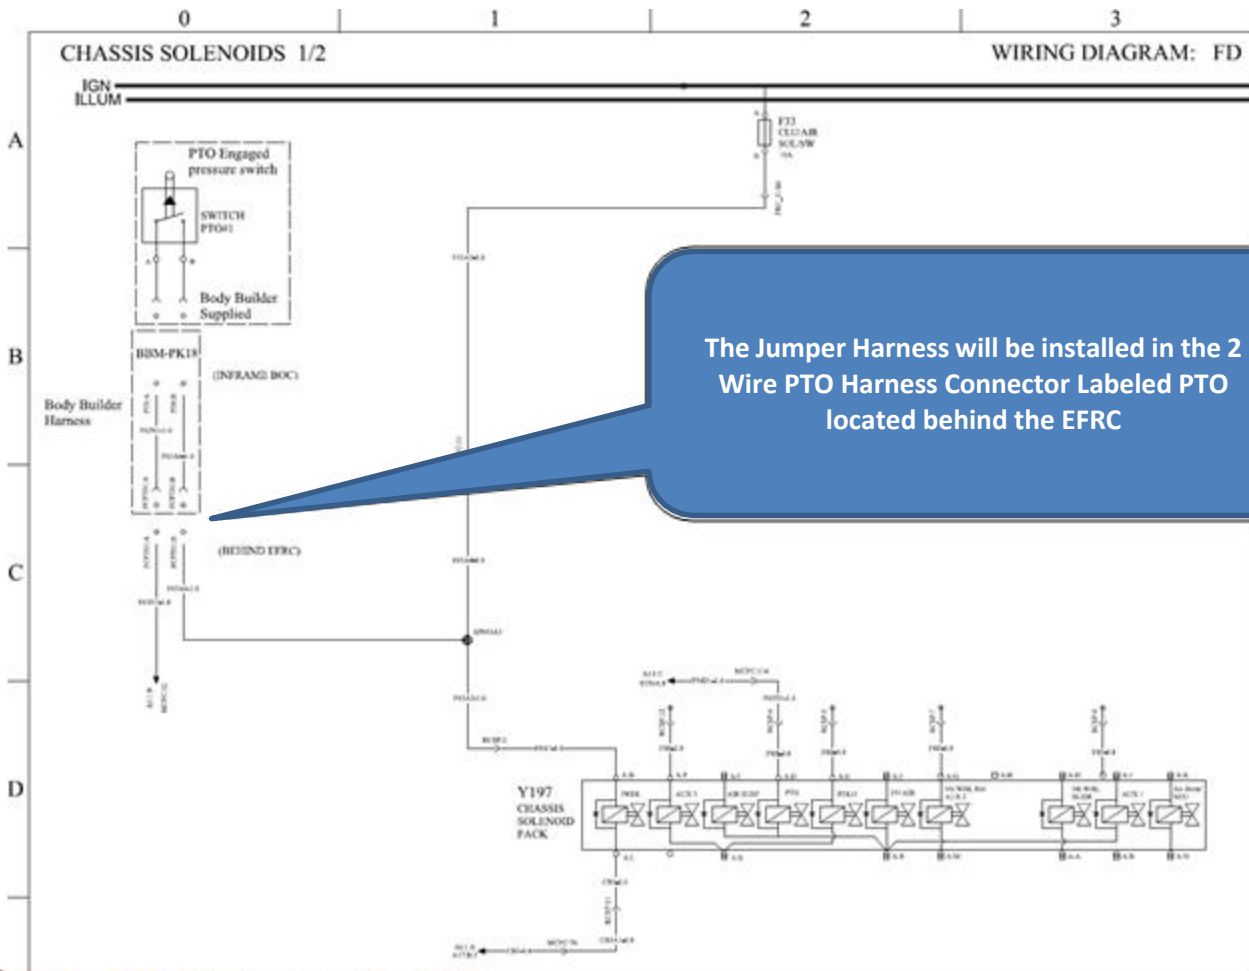

Figure 17
- Insert the terminals into the Connectors Cavity "A" Reference Figure 16 and Figure 17 Wiring Diagram